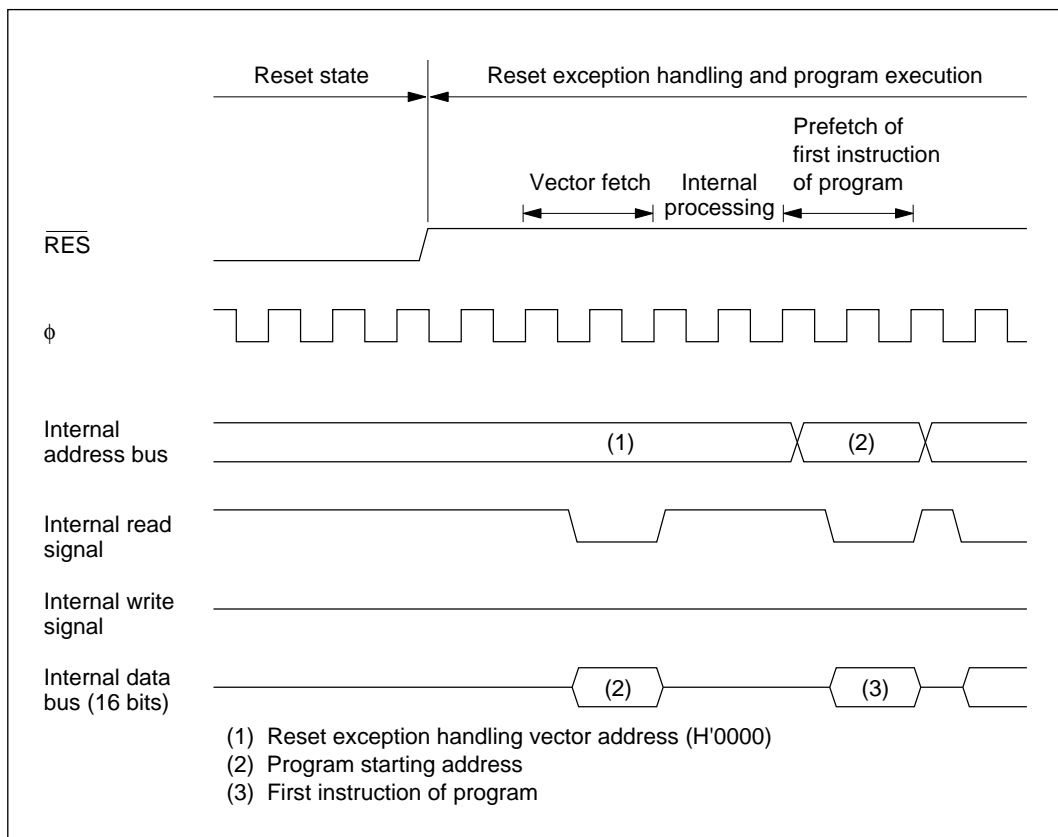

Figure 3-1 Reset Sequence
As soon as the $\overline{\text{RES}}$ pin goes from low to high level, reset exception handling starts. In this processing, the contents indicated by the reset exception handling vector address (H'0000 to H'0001) are read and sent to the program counter (PC). Then program execution starts from the address indicated in PC. Figure 3-1 shows the reset sequence.